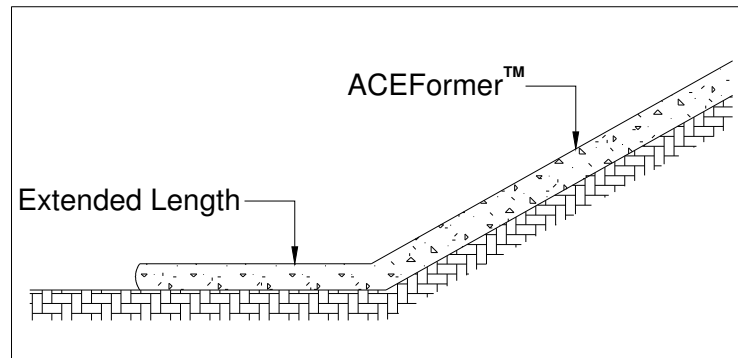

Figure 1. Illustration of protection at the toe of slope
- c. Prepare the toe of slope to receive ACEFormer™ as well, for the toe of slope is subject to erosion and should be protected. Consult professional hydraulic engineer for related calculation and design. Illustration of the extended length of ACEFormer™ at the toe is shown in figure 1.